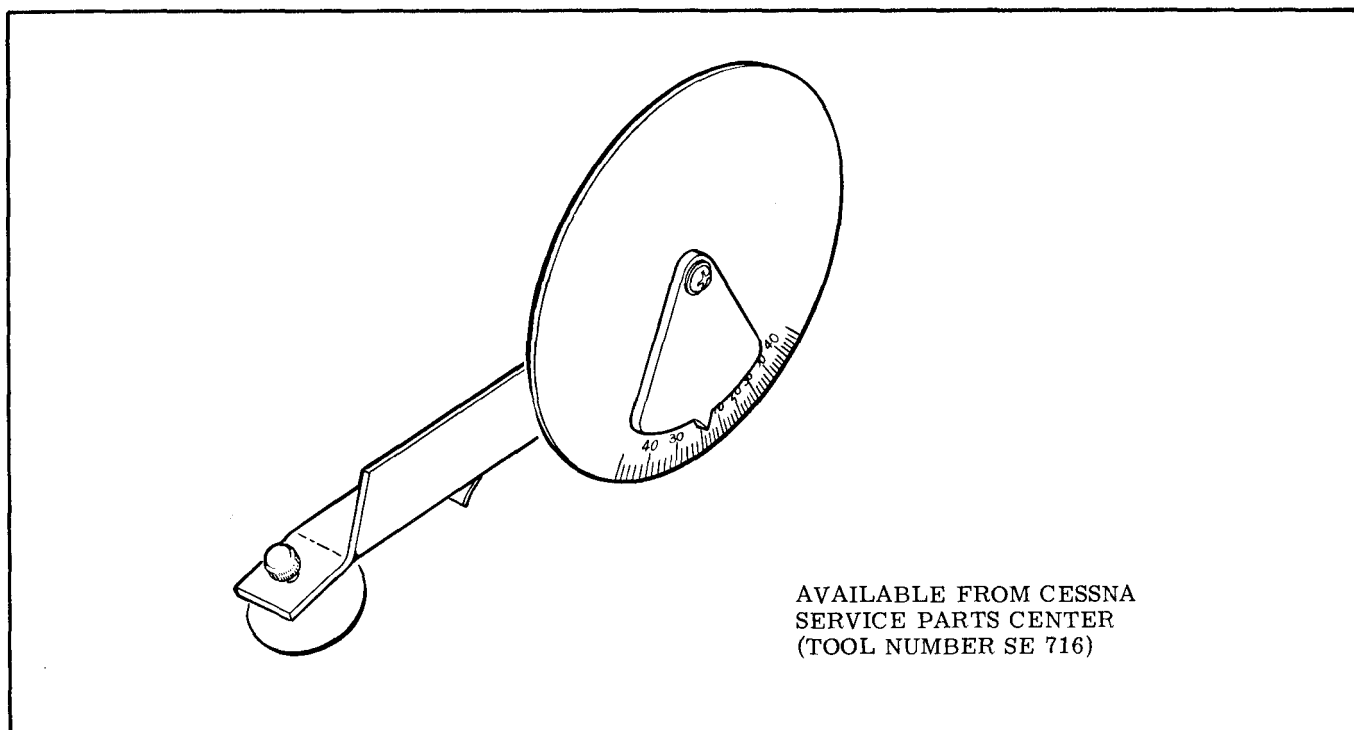

Figure 6-4. Inclinometer for Measuring Control Surface Travel
i. Check aileron travel, using inclinometer illustrated in figure 6-4.
An inclinometer for measuring control surface travel is available from the Cessna Service Parts Center. Refer to figure 6-4.